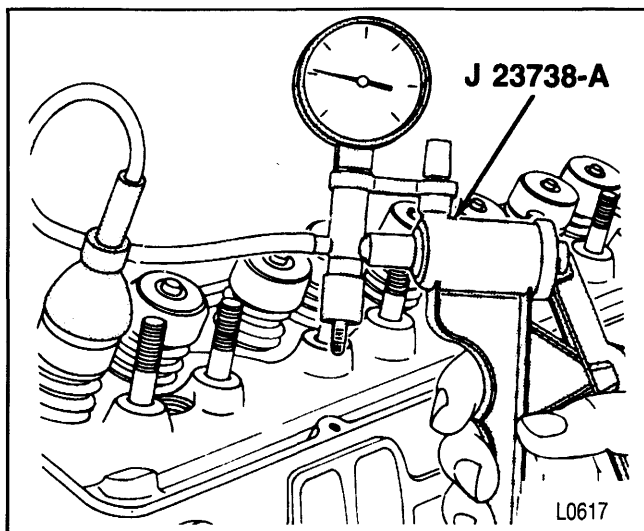

Figure 11—Checking the Valve Seals
- F. Check each O-ring seal for leakage (figure 11).